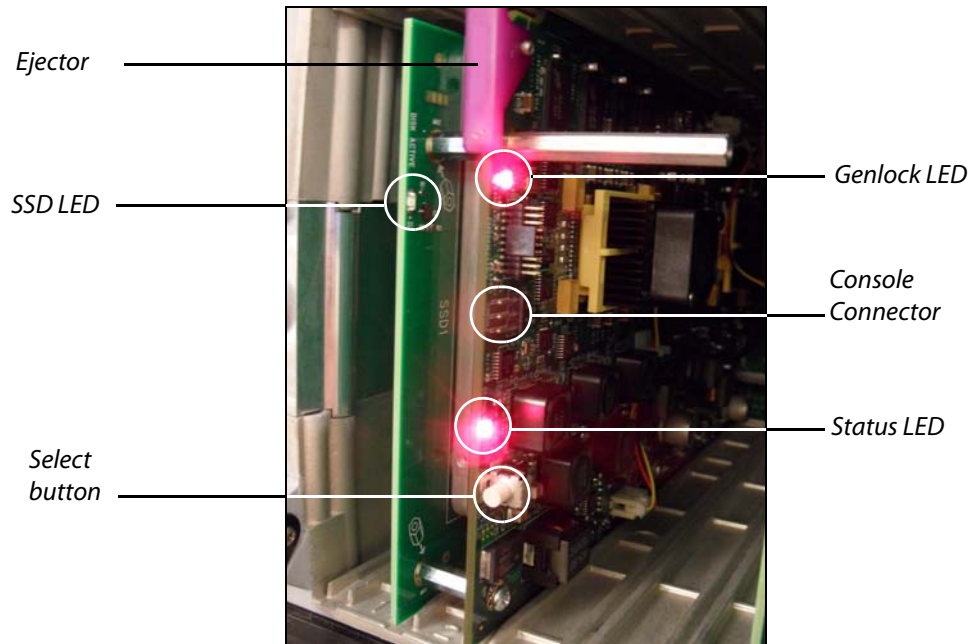

Figure 2-4. SSP-3801 card's front edge components
- 1 Push the **Select** button on the SSP-3801 card edge (see figure 2-4) to assign the local control panel to operate the SSP-3801.